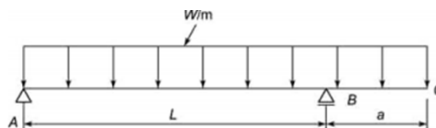

Figure 2
- An overhanging beam as shown in Figure 2 of span L between supports and overhang length 'a' is subjected to a UD load of w/m over the whole length. Draw SF and BM diagrams indicating maximum moment and shear force. [BL: Apply] CO: 2|Marks: 7]